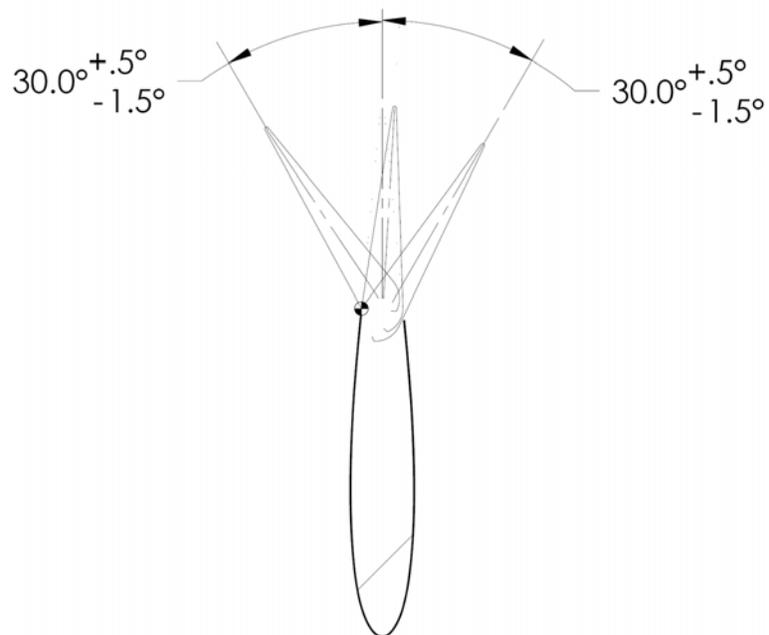

Figure 27-94 Rudder Deflection Measurements
3. The angle of the rudder shall be $30.0^{\circ} +0.5^{\circ}/-1.5^{\circ}$, in the range of 28.5° to 30.5° , to the Port side. See Figure 27-94 for details.
6. The angle of the rudder shall be $30.0^{\circ} +0.5^{\circ}/-1.5^{\circ}$, in the range of 28.5° to 30.5° , to the starboard side. See Figure 27-94 for details.